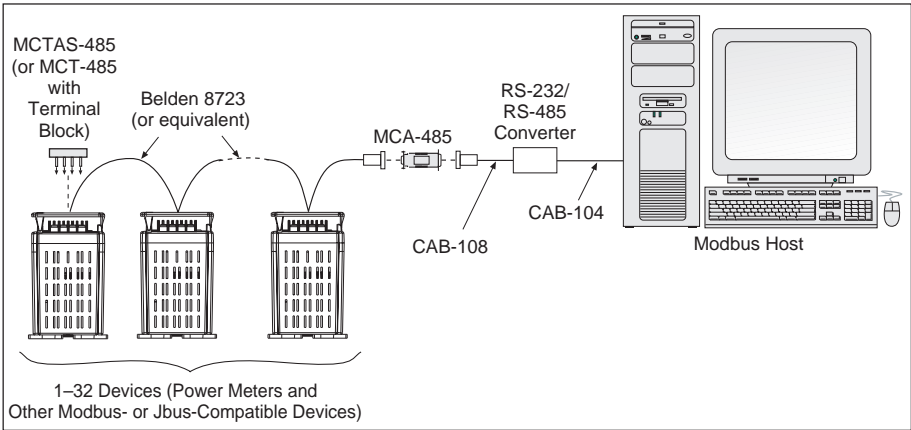

Figure 6-4: Power meters connected to a personal computer via serial port
- Connect up to 32 Modbus or Jbus devices to a personal computer (figure 6-4). See **Length of the Communications Link** in this chapter for distance limitations at varying baud rates.